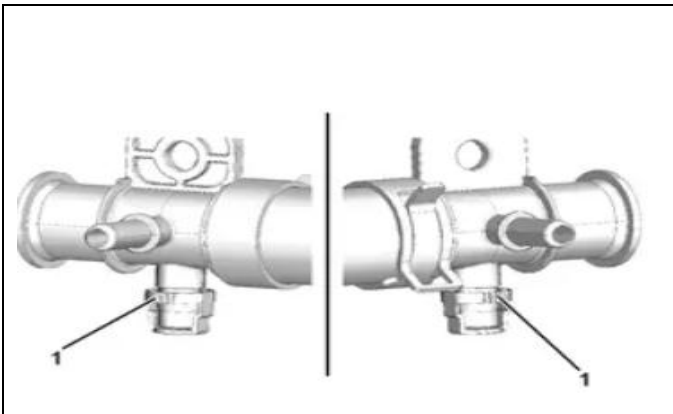
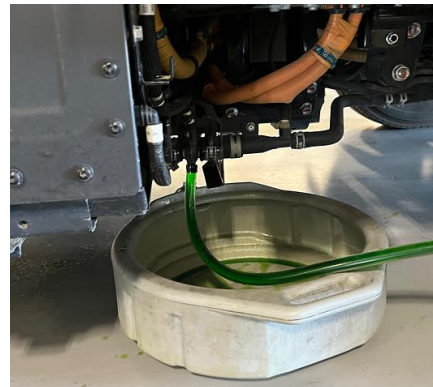

Figure 6
Figure 7
8. Prepare the vinyl tube with valve from the tool kit and ensure that the valve is turned off. Remove the right-front HV battery coolant drain plug cap by firmly squeezing the scored plastic release tabs (See Figure 6.) on the drain cap and pull straight down. Immediately push the empty end of the vinyl tube onto the drain fitting. (See Figure 7.) Save the drain cap for later use.